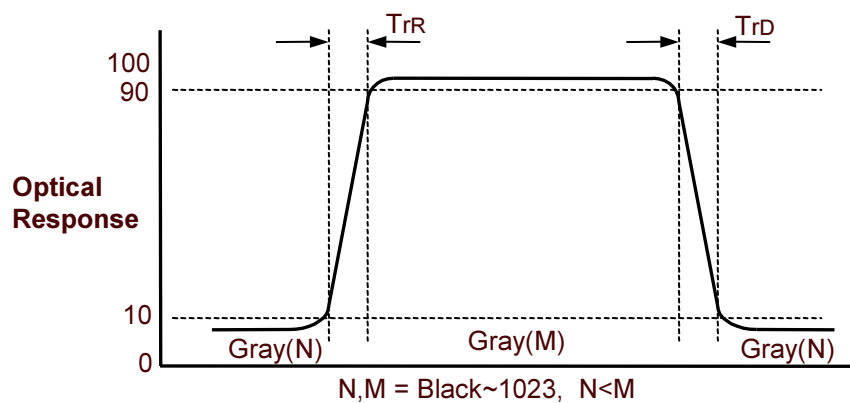

FIG.3 Response Time(G to G)
4. Response time is the time required for the display to transition from G(N) to G(M) (Rise Time, Tr_R) and from G(M) to G(N) (Decay Time, Tr_D). For additional information see the FIG. 3. (N<M)